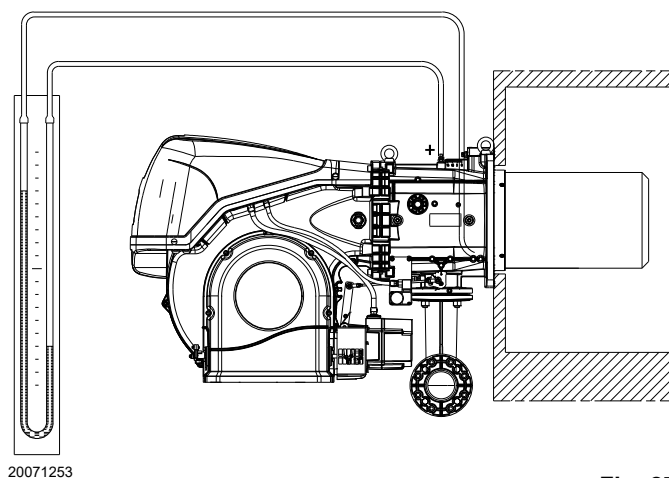

Fig. 27
- Fit a U-type pressure gauge or a differential pressure gauge (Fig. 27), with socket (+) on the gas pressure of the pipe coupling and (-) in the combustion chamber.
The arrival of gas at the pipe coupling is indicated by the U-type pressure gauge (Fig. 27).
A rough indication can be obtained from Tab. J on page 25, just read the gas pressure on the "U" pressure gauge (see Fig. 27 on page 27) and follow the indications.